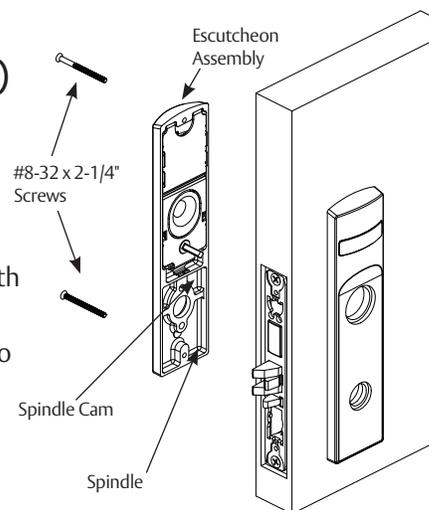

Figure 15
2. Align escutcheon and install inside escutcheon assembly onto inside of door face. (Figure 15)